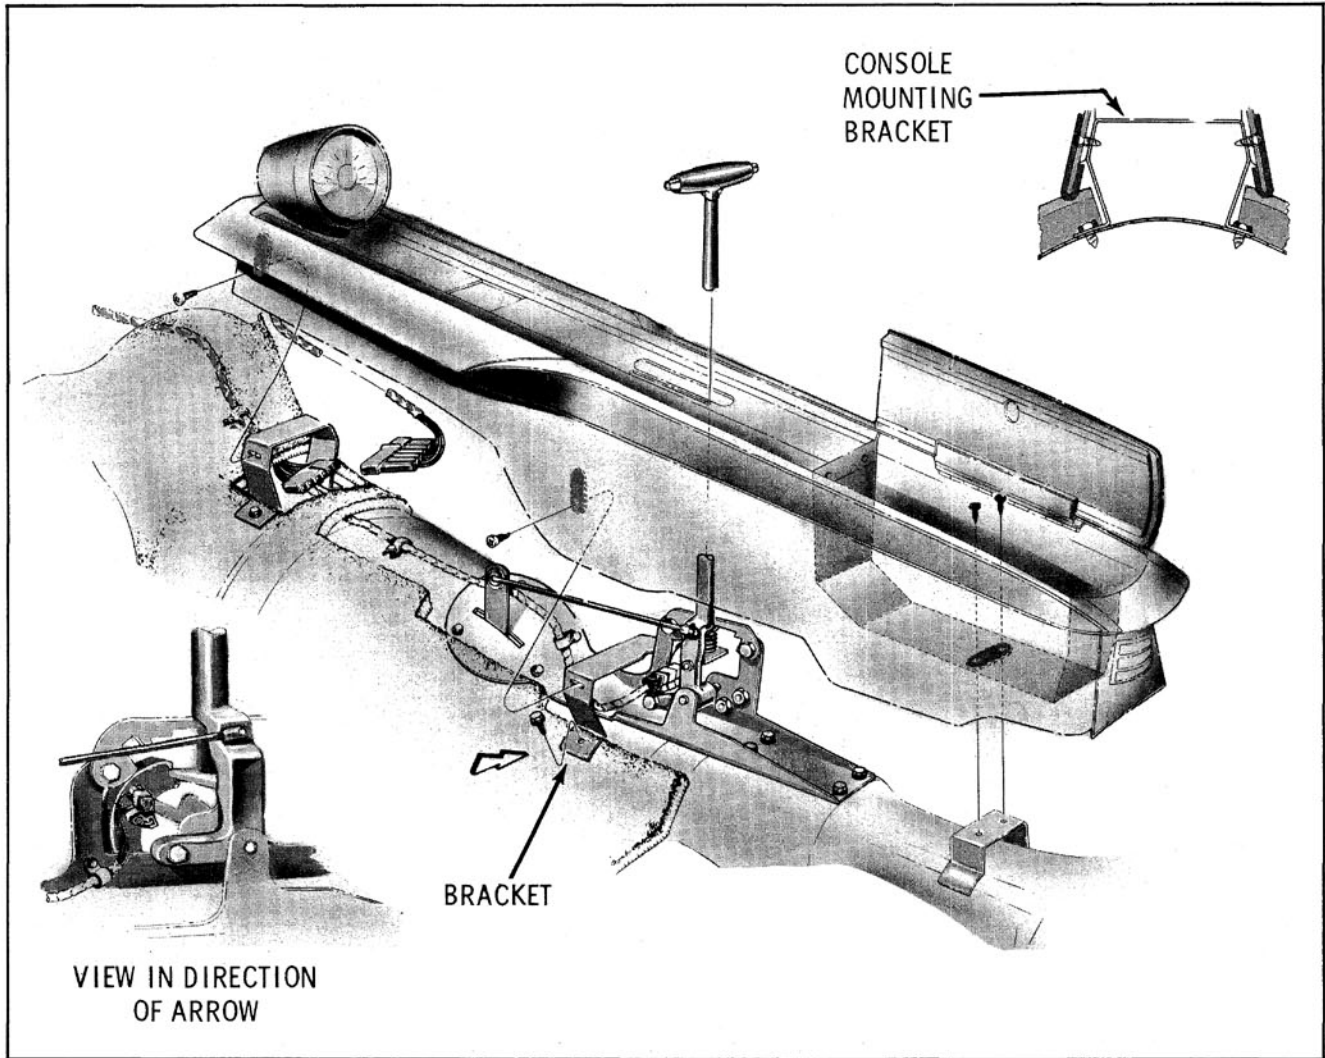

Fig. 12-113 Console Mounting
1. Remove two screws from each side securing console to brackets. (Fig. 12-113)